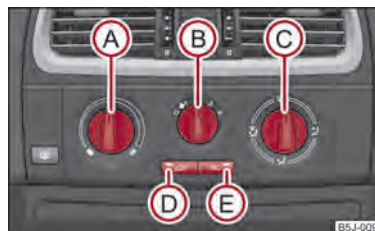

Fig. 75 The air conditioning system: Control elements
The air conditioning system operates when switch   $\Rightarrow$  fig. 75  is pressed and the following conditions are met:
- Turn the control dial   $\Rightarrow$  fig. 75 to the right in order to increase the temperature.
- Press the button   $\Rightarrow$  fig. 75. The warning light lights up in the button.
- Controls Ⓐ, Ⓑ, Ⓒ and the buttons Ⓓ and Ⓔ ⇒ fig. 75.
- Press the button Ⓢ Ⓓ ⇒ fig. 75, the warning light lights up in the button.
The recirculated air mode is switched off automatically if the air distribution control (C) is in position (M) ⇒ fig. 75. You can also switch recirculated air mode on again from this setting by repeatedly pressing pushbutton (S).